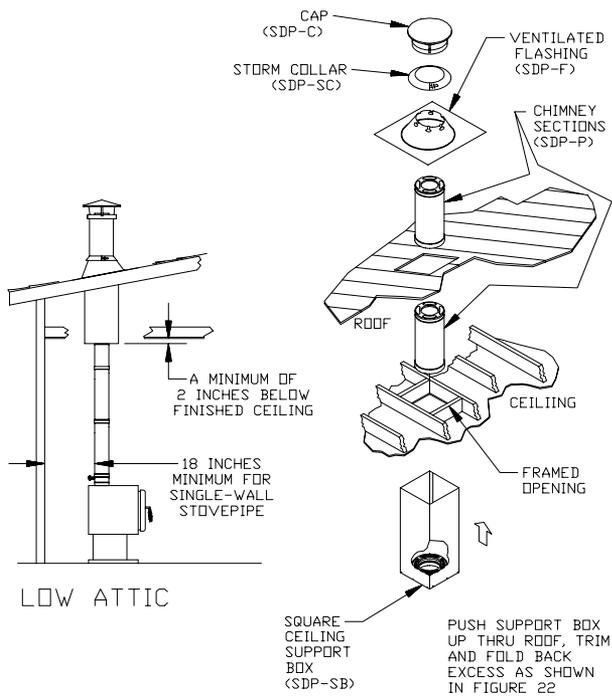

Fig 20
2. Cut Openings: Cut a roof opening directly above the appliances' flue outlet collar, just as in a Ceiling-Supported Installation (**Steps 1 thru 5**). If a separate ceiling and roof exists, as shown in **Figure 20**, (Low Attic), first cut and frame a ceiling opening as described in Ceiling-Supported Installations (**Step 2**). Refer to **Table 2** for clearance and framing specifications. If it is desired to install through a cathedral ceiling (**Figure 21**), then the hole is cut in the roof.